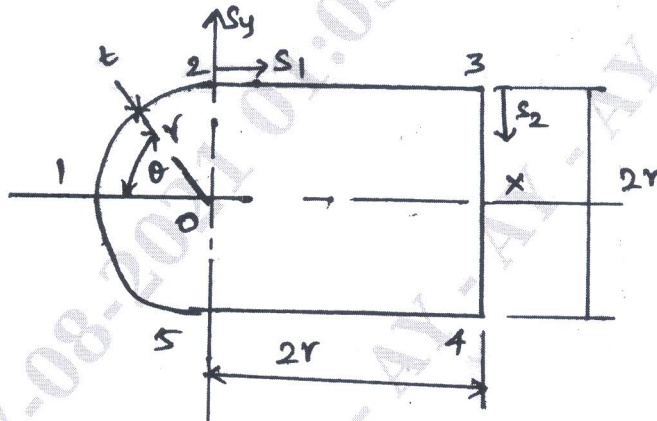

Fig Q4(a)
- 4 a. Determine the shear flow distribution in the walls of the thin walled closed section beam shown in Fig Q4(a). The walls thickness t , is constant throughout.